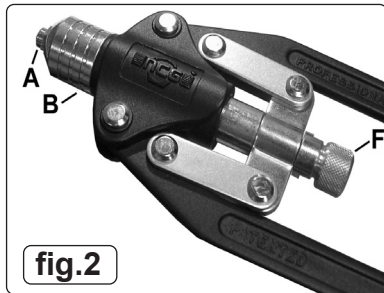
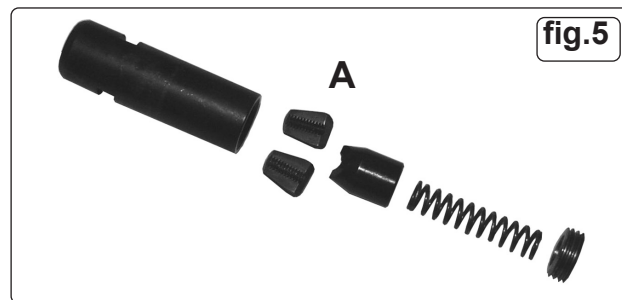

fig.2
fig.5
- 6.1.1. Select the mandrel (fig.2.A) which matches the shaft diameter of the rivet and screw it to the nosepiece (fig.2.B) of the riveter.
- 6.2.1. Unscrew the pop rivet nosepiece (fig.2.B) from the riveter body.
- 6.2.2. Unscrew the jaw case assembly (fig.5) from the draw bar body (fig.2.F).
- 6.2.10. Unscrew the mandrel bar from the nut rivet by turning the knurled end of the draw bar body (fig.2.F) and then screw on a new nut rivet for the next operation.
- 7.1.1. The jaw case assembly (fig.5) should be disassembled, cleaned and oiled at regular intervals, depending on the frequency of use. The need for either cleaning or jaw replacement (fig.5.A) will be indicated by the riveter failing to grip the rivet shaft.